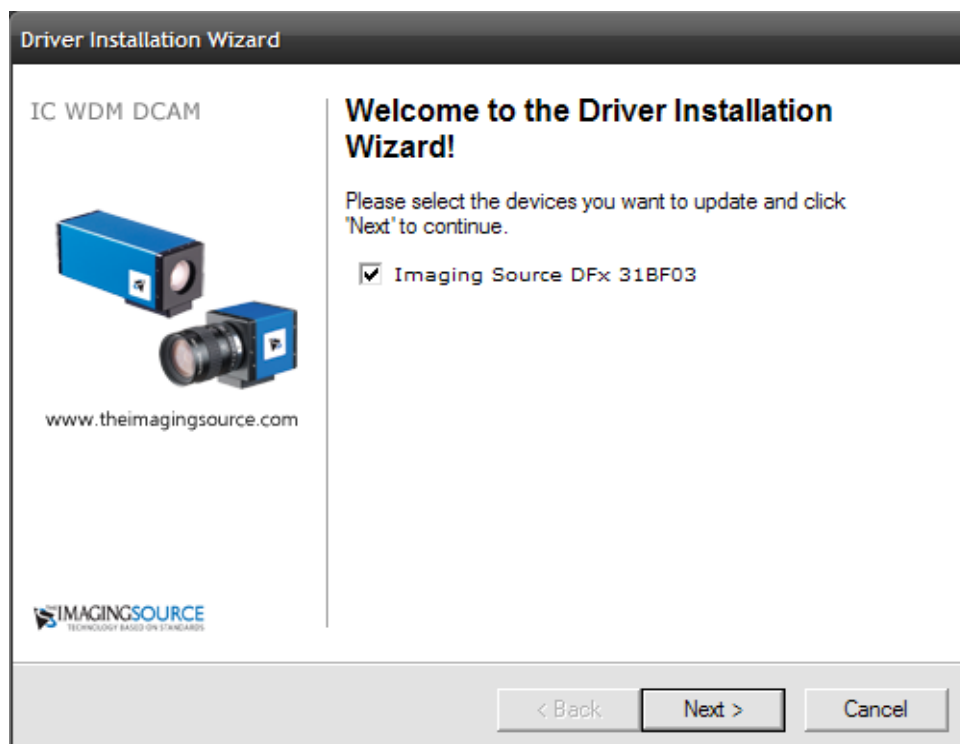

Fig. 5-18
8. When the camera has been connected, a message informing that new equipment was found and successfully connected is displayed at the right bottom of the screen. Then the Driver Installation Wizard window will appear (Fig. 5-18).